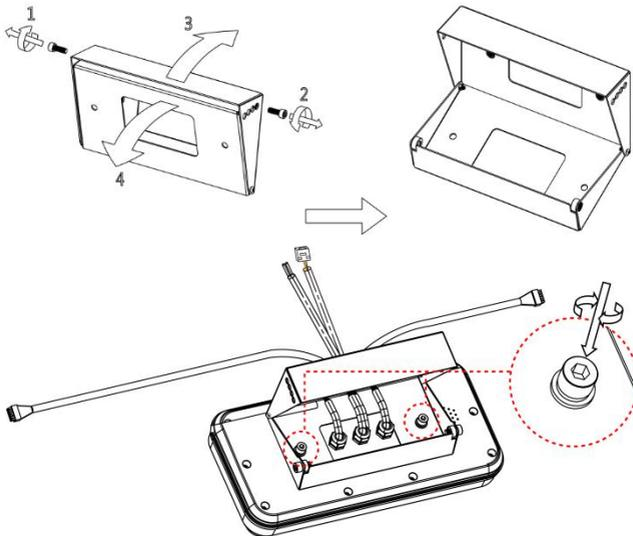

Figure 3-3
**Step 3:** Install the adjustable metal bracket on the host. The screws and holes on both sides of the bracket can fix and adjust the display angle of the host, as shown in the figure 3-3 below.